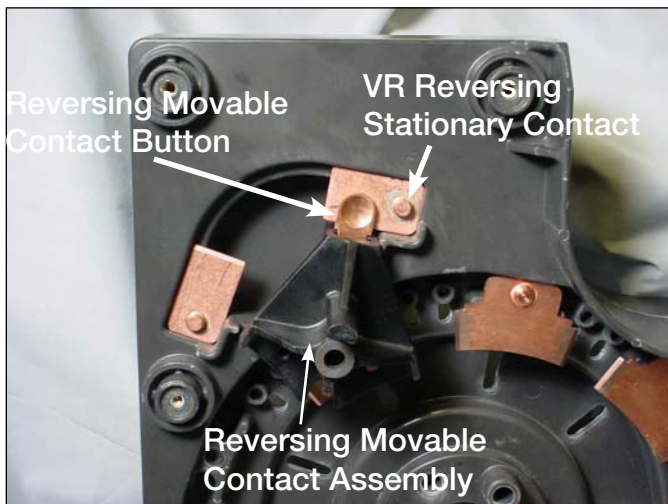

Figure 25.
- Rotate the reversing switch assembly so that the button contacts are on the VR reversing stationary contact. See Figure 25. To identify the VR stationary contact look for the ID marking on the contact panel.